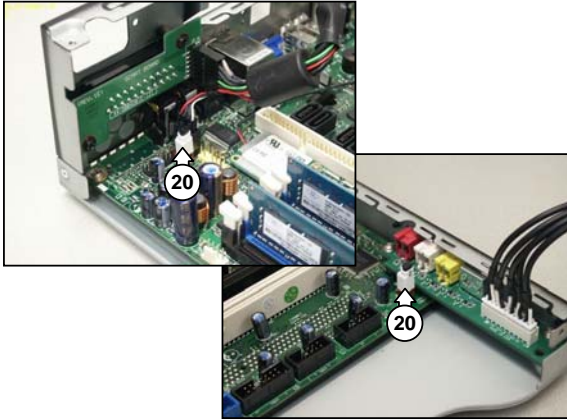

Figure 12.16-12
2. Remove the 2 thermistors (20). See Figure 12.16-12.